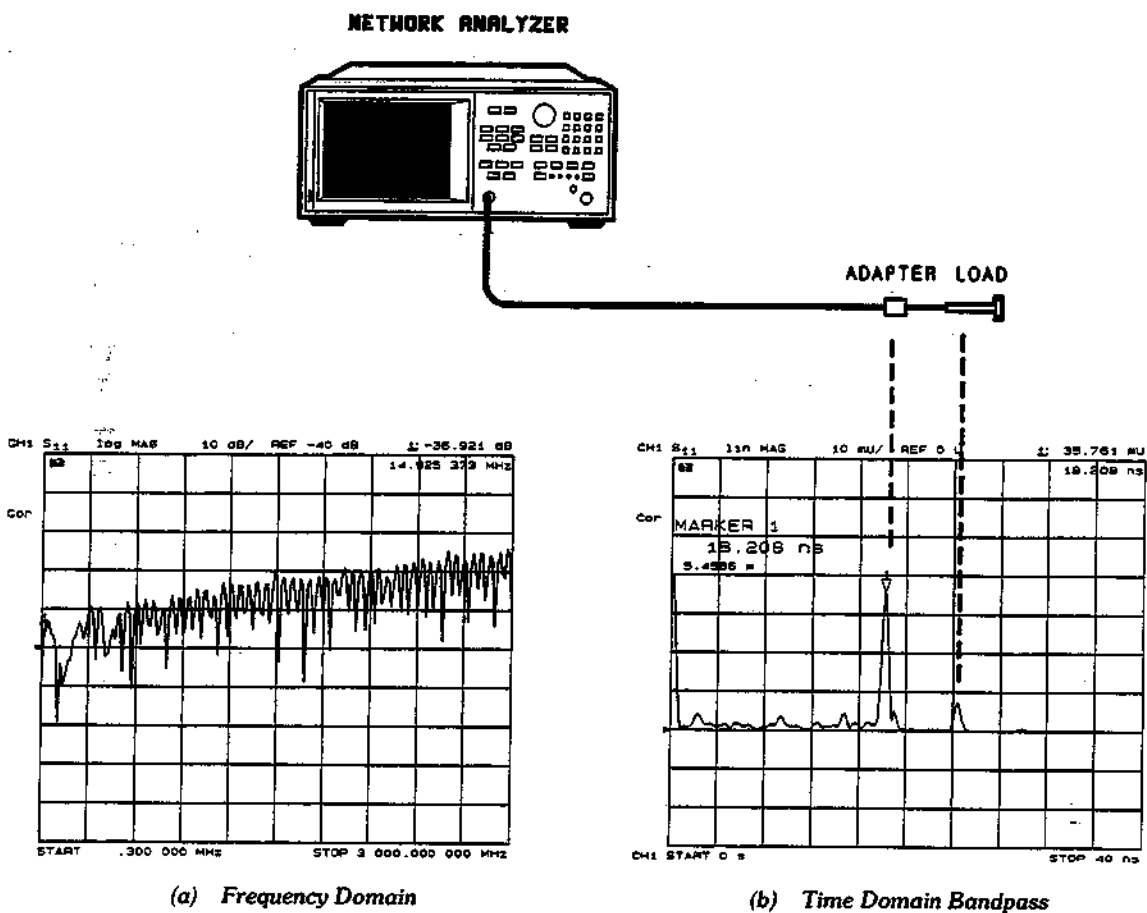

Figure 10-26. A Reflection Measurement of Two Cables
2. Connect one or more lengths of cable, with adapters between cable sections, as shown at the top of Figure 10-26.
Figure 10-26 shows typical frequency and time domain responses of a reflection measurement of two sections of cable.
Interpreting the Bandpass Reflection Response Horizontal Axis. In bandpass reflection measurements, the horizontal axis represents the time it takes for an impulse launched at the test port to reach a discontinuity and return to the test port (the two-way travel time). In Figure 10-26, each connector is a discontinuity.